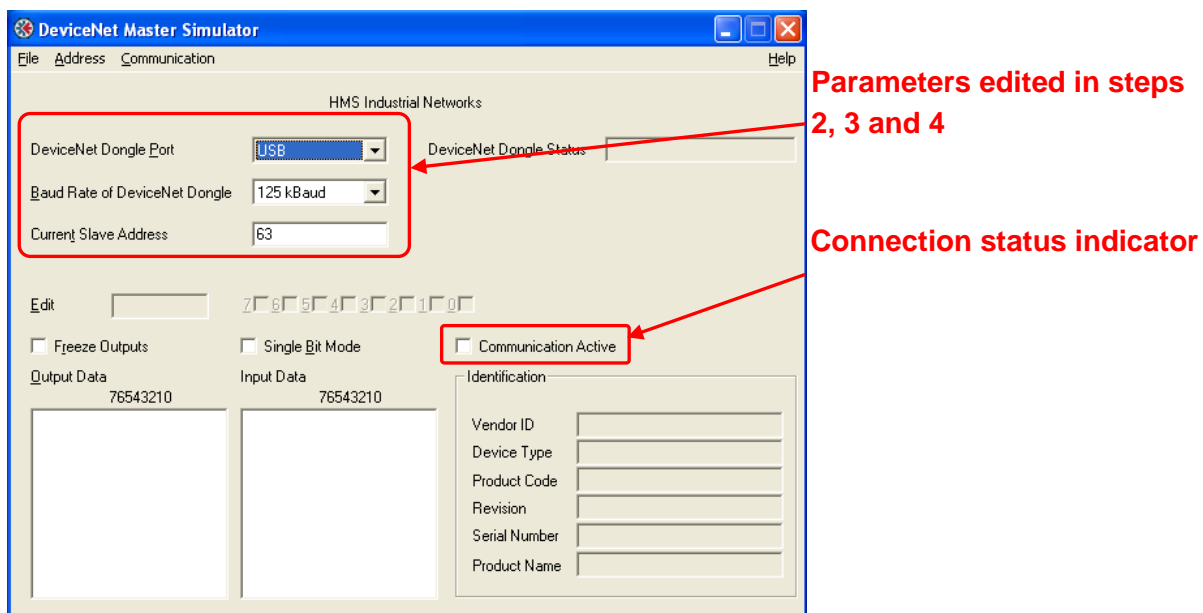

Figure 4.2-1: The DeviceNet Master Simulator user interface.
1. Start the application on the PC. A screenshot of the main window is shown in Figure 4.2-1.
7. A successful connection will be indicated by a check-mark in the *Communication Active* checkbox smaller highlight in Figure 4.2-1.